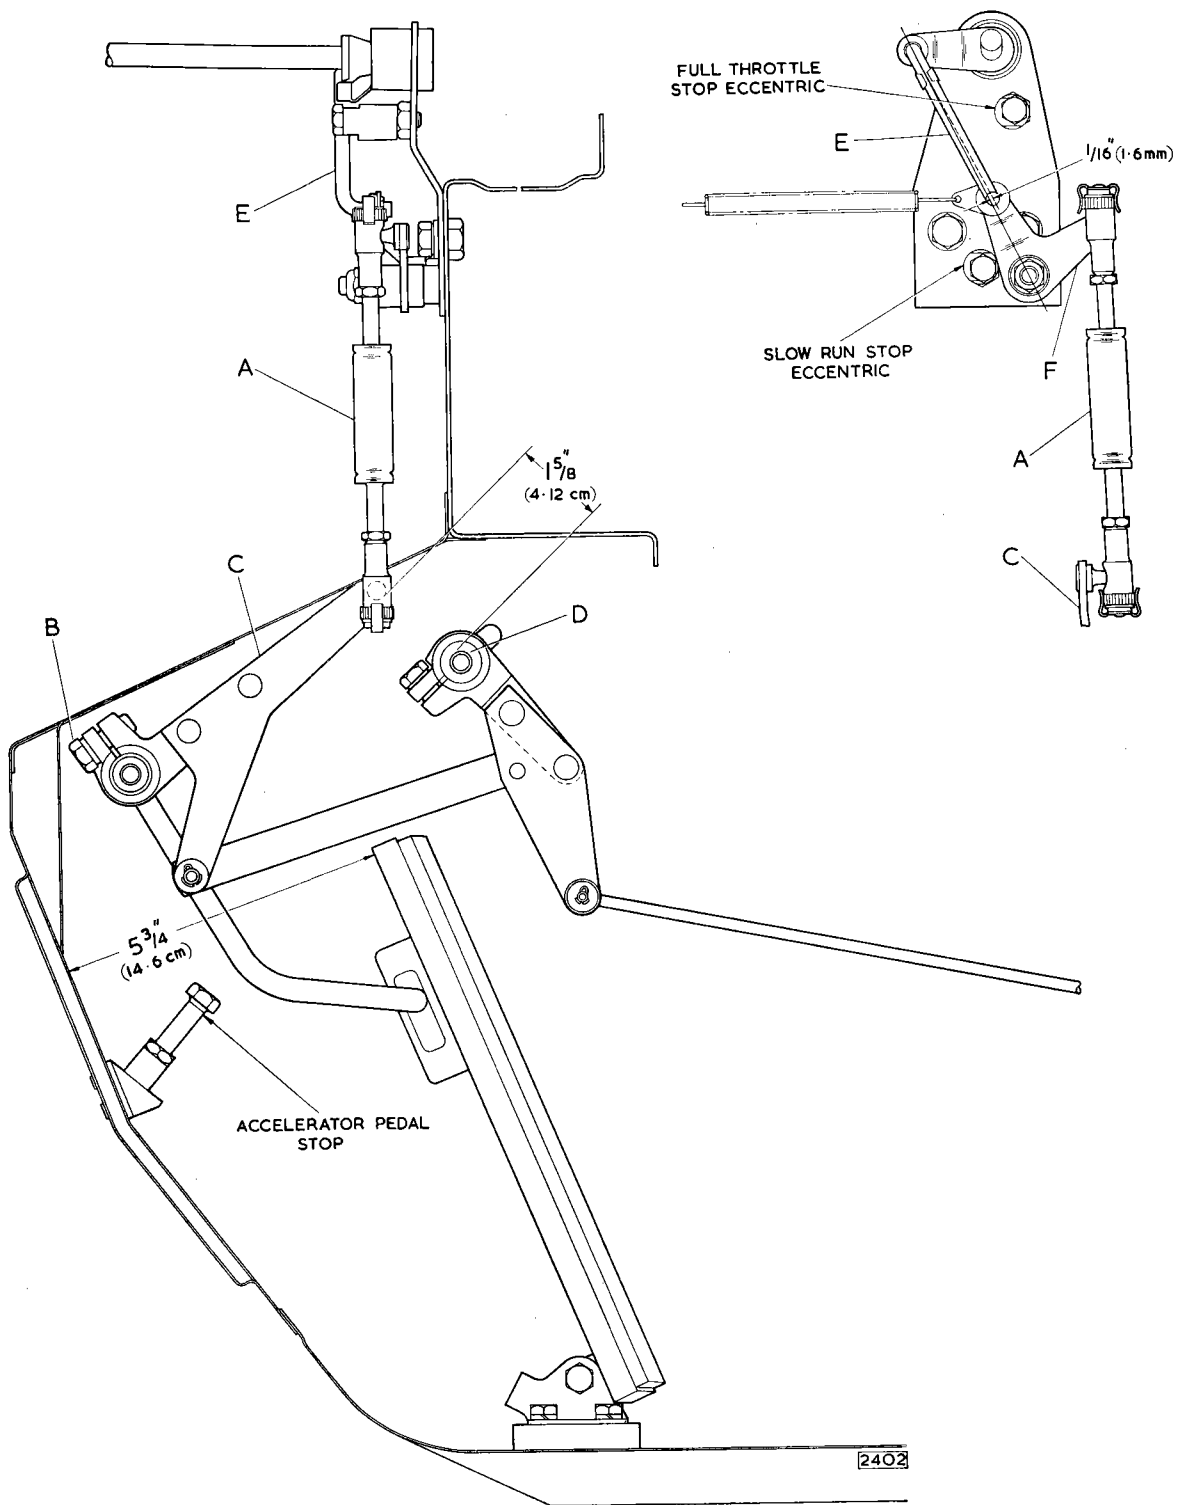

Fig. 16. Accelerator linkage—Right-hand drive
1. Remove the connecting link (A, Fig. 16) (spring control rod on automatic transmission models).
3. Slacken off the pinch bolt (B) of the lever (C) and fit a $1\frac{5}{8}$ " (4.12 m) template between the bell crank lever (C) ball end and the outer diameter of the kick down cross shaft (D). Lock up the pinch bolt on the accelerator cross shaft (B).
4. To reset the slow motion link (E), ensure that the carburetter throttle butterflies are shut. If necessary, this can be obtained by slackening off the pinch bolts on all the butterfly levers and adjusting the slow running stop eccentric to give $\frac{1}{16}$ " (1.58 mm) "offset" as shown in Fig. 16. Re-tighten the butterfly levers to the desired position; ensuring that a minimum of free play exists between the butterfly spindles and levers.
5. On automatic transmission models with the accelerator template still in position, adjust the kick down spring control rod (A) in length until it will fit the ball joints of levers (C) and (F). DO NOT forget to tighten the spring control rod lock nuts.